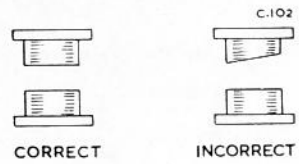

Fig. 37 Correct and incorrect contact faces
2. With a fine "India" or "Carborundum" slip, dress both contact points until an even, parallel and polished face is achieved, see Fig. 37.